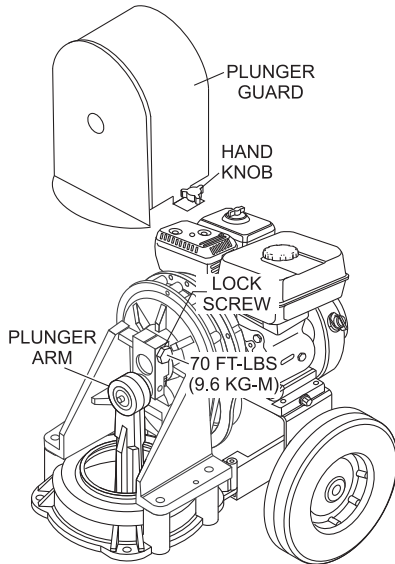

Figure 24. Lock Screw Torqueing
1. Remove plunger guard (Figure 24) by turning guard hand knob counterclockwise to loosen.
3. Using a torque wrench, torque lock screw (Figure 24) to 70 ft.-lbs. (9.6 kg-m).